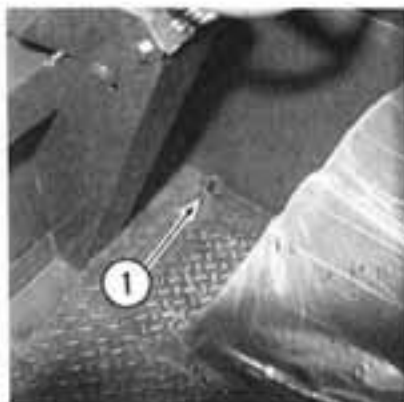

Figure 3
10. Turn on main solution valve switch. See Item 1; Figure 3.